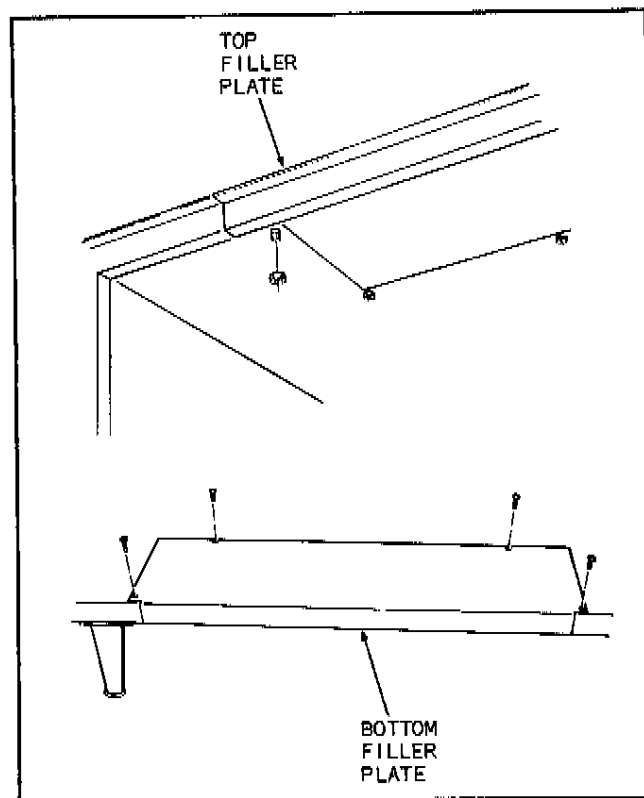

Figure 1-3. Filler Plate Removal (Snacktron 1™ Merchandiser Only)
1. For doorways as small as 31" (78.7 cm), remove the top and bottom filler plates (see Figure 1-3).